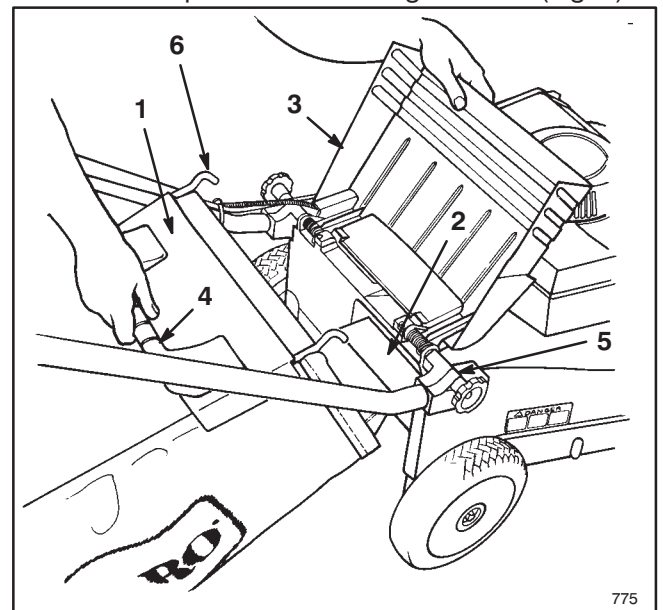

Figure 6
1. Raise discharge door, slide bag ramp attached to bag into discharge opening, and hook bag frame onto rounded portion of mounting brackets (Fig. 6).